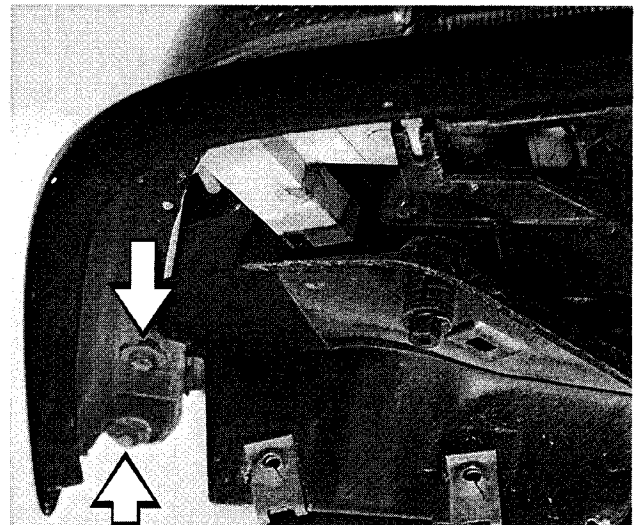

Fig. 20. Front bumper must be off to access far right and left front panel retaining screws from below (arrows). (Right side shown.)
6. Working under car, remove left and right side panel retaining screws. See Fig. 20.